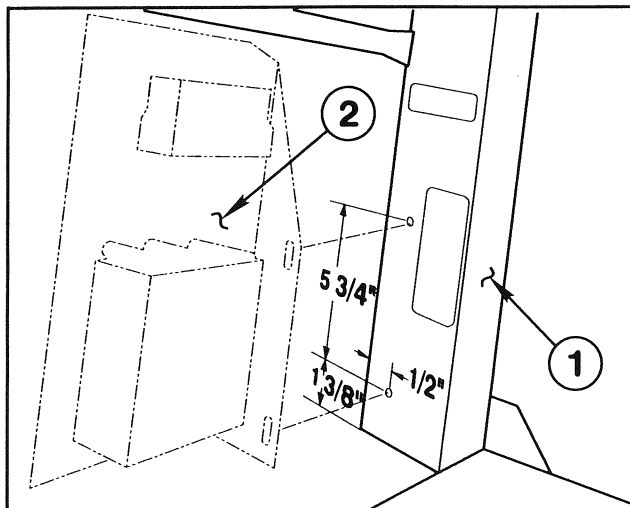

FIG. 11
1. Remove (15) screws and washers securing the Front Panel to Vehicle frame and remove Front Panel.
2. Locate and drill two (2) 3/8" holes in right Upright Post. See FIG. 11